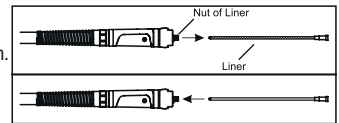

Figure 9: Removing the Liner and Installing the New Liner
- Unscrew the liner's nut which is on torch connector side and remove the liner existing in torch. After inserting the new liner into the torch, screw its nut tightly (Figure 9).